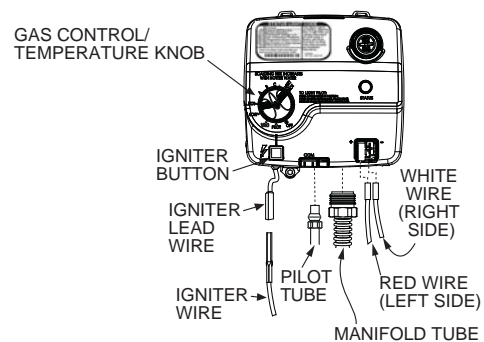
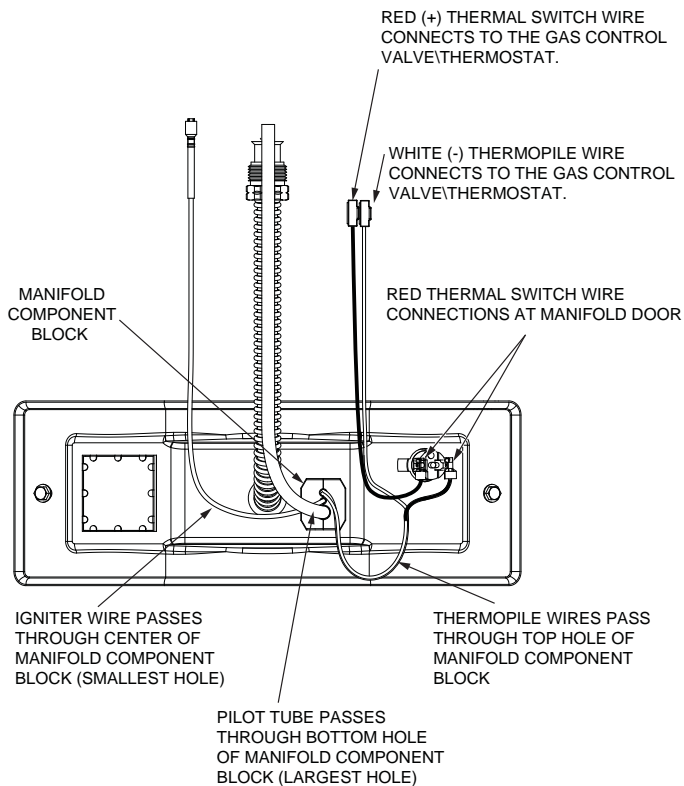

FIGURE 22.
FIGURE 27.
5. Disconnect the following from the gas control valve/thermostat: pilot tube (7/16” wrench), igniter wire (from the igniter lead wire), and manifold tube (3/4” wrench). See Figure 22.
6. Disconnect the white and red wires from the gas control valve/thermostat (Figure 22). Use needle nose pliers to grip the connector(s). **IMPORTANT:** Grip the connector carefully to prevent damage. Do not grip or pull the wires themselves.
- Reinstall the manifold component block in the manifold door. Ensure that the pilot tube and wires are positioned as shown in Figure 27.
6. Reconnect the manifold tube (3/4" wrench) and pilot tube (7/16" wrench) to the gas control valve/thermostat (Figure 22). Do not cross-thread or apply any thread sealant to the fittings.
7. Connect the white and red wires to the gas control valve/thermostat as shown in Figure 22. Also, ensure that the red thermal switch wires are connected to the thermal switch on the manifold door (Figure 27).
8. Reconnect the igniter wire (Figure 22).
4. Disconnect the igniter wire from the igniter lead wire. Use needle nose pliers to disconnect the red (+) and white (-) thermopile wires. Disconnect the pilot tube (7/16" wrench) and manifold tube (3/4" wrench) at the gas control valve/thermostat (Figure 22).